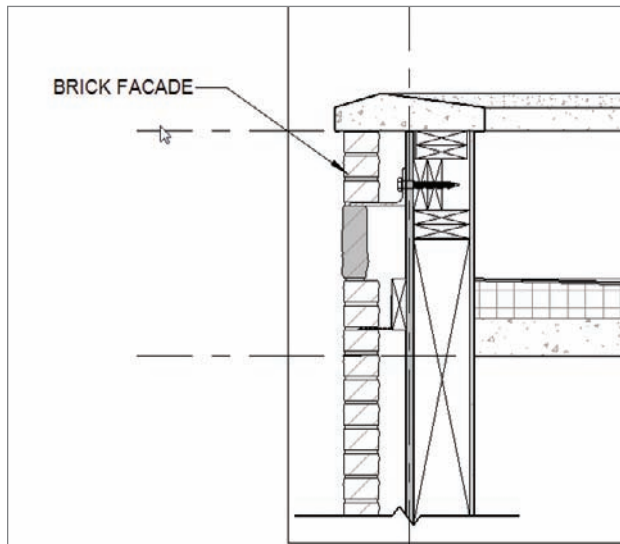

FIGURE 12.54 Placing the material tag
If you are confident, you can go and do this on your own. Your finished detail should look like Figure 12.54 at the end of this series of steps. If you would like some instruction, follow along:
8. Once you place your cursor over the brick, you will see the tag fill in. Place the tag as shown in Figure 12.54.